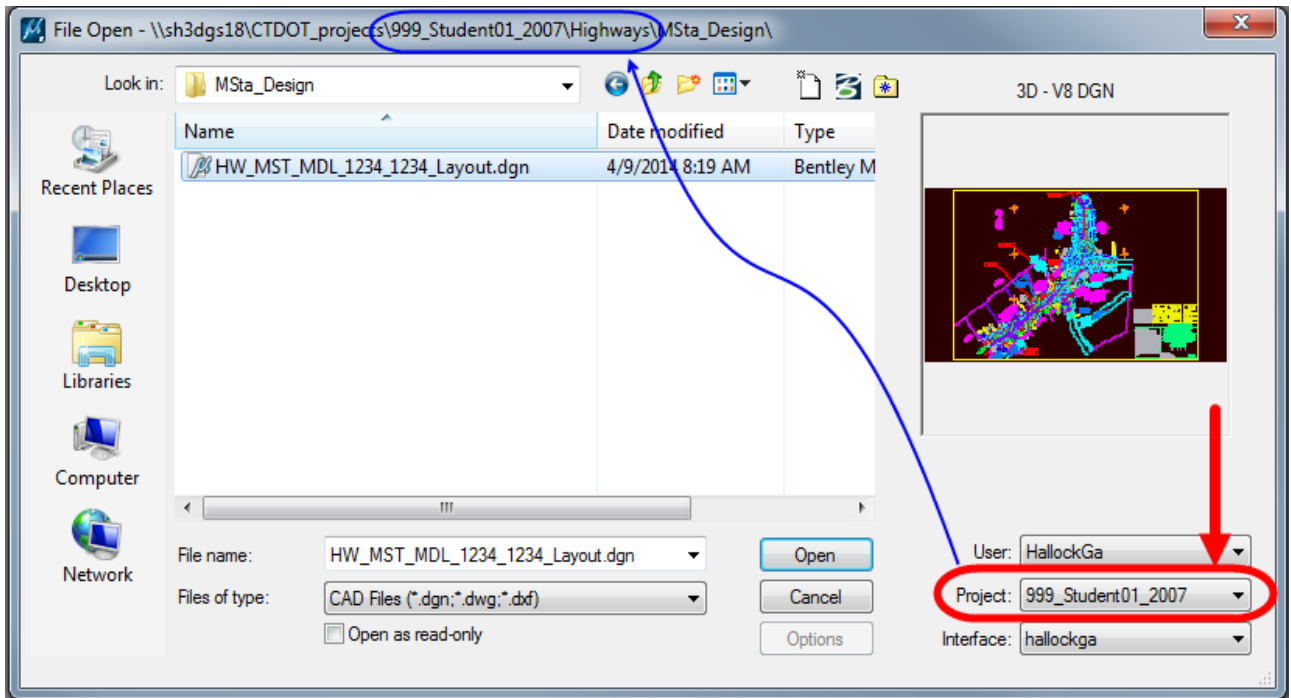

Figure 4 - MicroStation File Open Dialog Box
Once you get into **MicroStation** through Accounting you will see the dialog box “**File Open**” for opening and/or creating new files in **MicroStation** (Figure 4).
1. **Pick** the project number for your project (Figure 4); this will direct you into the project container (folder).